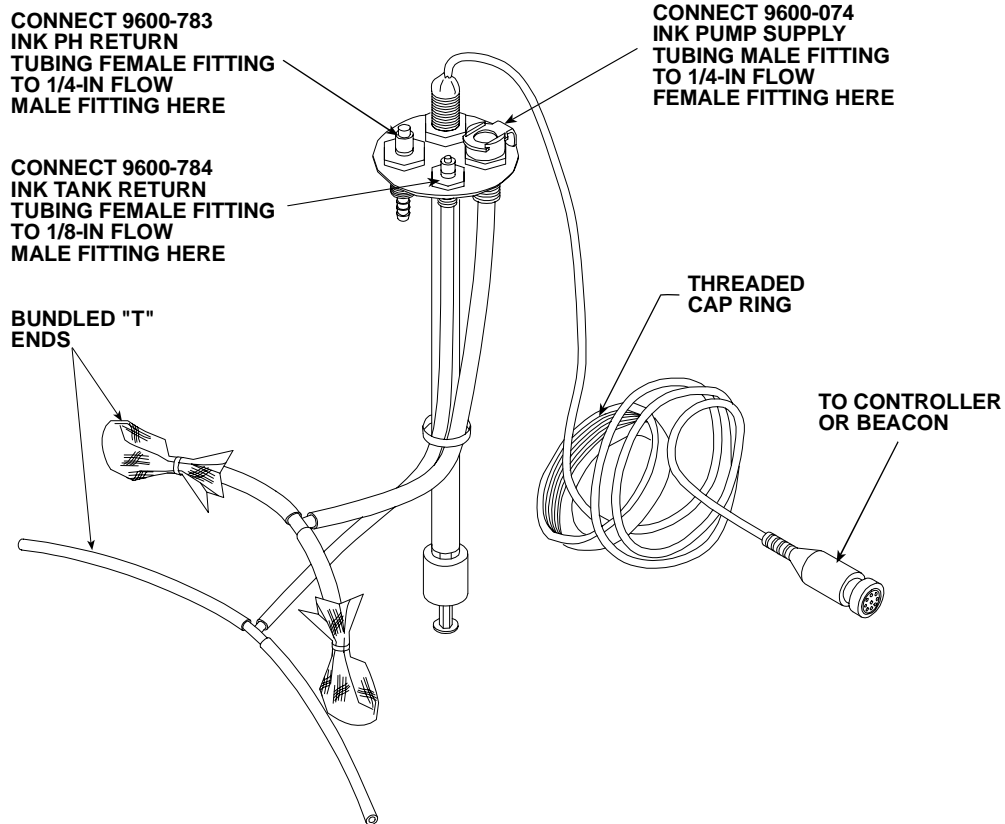

Figure 3 Ink Cap Assembly (9600-073)
- 9600-073 ink cap assembly (*Fig. 3*)
2. Install the INK CAP assembly (*Fig. 3*) in the ink container by inserting one side of the bundled "T" ends into the opening followed by the other side of the "T". Make sure that the bundled "T" ends curve towards the bottom center of the ink supply pail. As the ink level drops, both ends of the "T" must rest on the bottom or the system will take in air and corrupt the printing.
3. Connect the male fitting end of the tubing into the 1/4-in flow female fitting of the INK CAP assembly (*Fig. 3*).
2. Connect the open end of the tubing assembly to the INK TANK RETURN (L) fitting on the front panel.
3. Connect the female fitting end of the tubing to the 1/8-in flow, male fitting of the INK CAP assembly (*Fig. 3*).
2. Connect the open end of the INK PH RETURN tubing assembly to the INK PH RETURN fitting (J) on the front panel.
3. Connect the female fitting end of the tubing to the 1/4-in flow male fitting on the INK CAP Assembly (*Fig. 3*).
Connect the INK LOW STROBE LIGHT to the INK CAP assembly connector (*Fig. 3*) and plug the power supply into a standard 110VAC outlet.